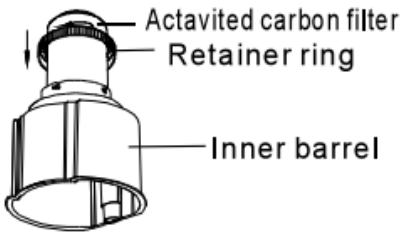

Figure 9
- 3) Activated carbon filter fit on the bottom of the inner barrel by retainer ring. (Figure 9)